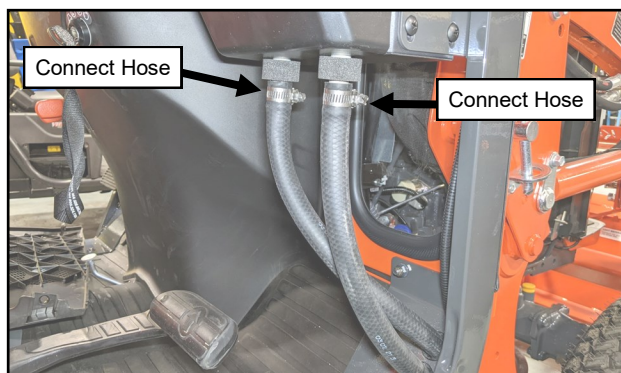

Fig. 15.17 (Connect Hose to Heater)
- 15.17** Inside the cab, cut the hose to length and connect to the heater with small hose clamps. See Figure 15.17.